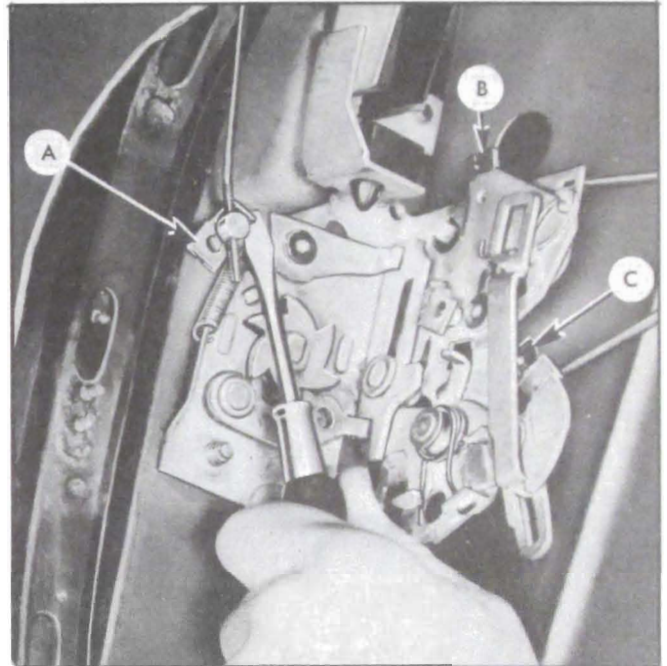

Figure 13-217—Rear Door Lock Connecting Rod Attachments
2. Through large access hole disengage spring clips at "A", "B" and "C" and detach connecting rods from door lock. See figure 13-217.
2. Through large access hole disengage spring clip "A" (figure 13-217) and detach adjusting nut and attached connecting rod from lock.
(b) Through large access hole disengage spring clip at "B" (figure 13-217) and detach connecting rod from lock. Detach rod from clip at inner panel and remove from door.